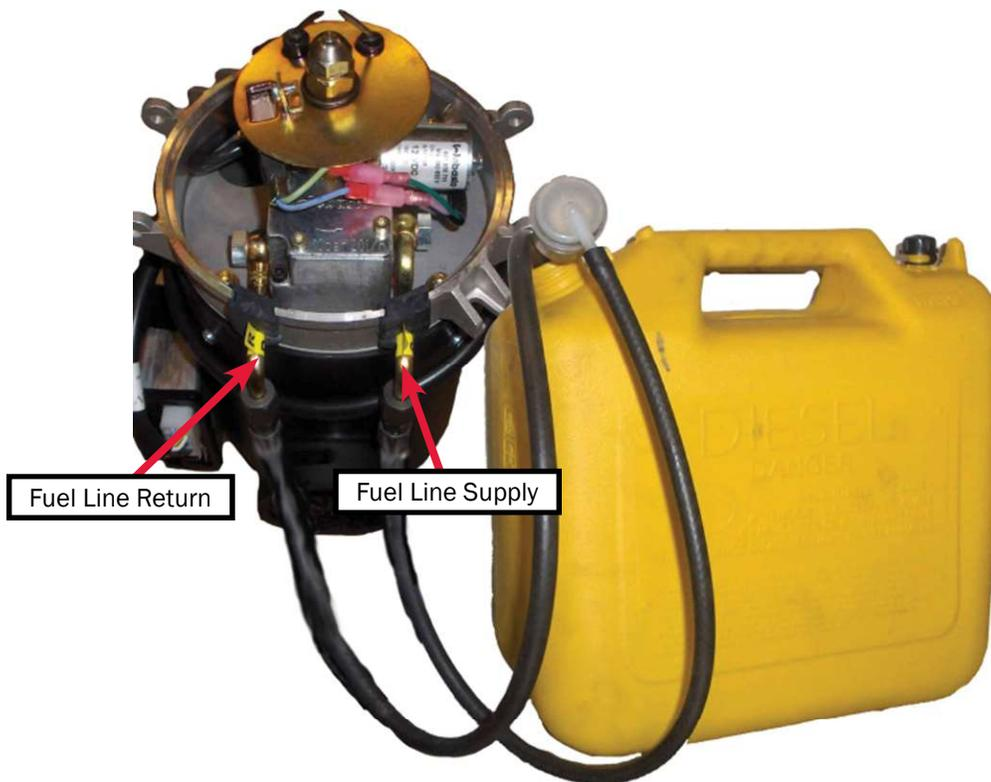

Figure 105
- Install rubber fuel lines on both the supply and return fuel pipes, and install the other end of the rubber fuel lines into an adequate supply of diesel fuel. Reference Figure 105.